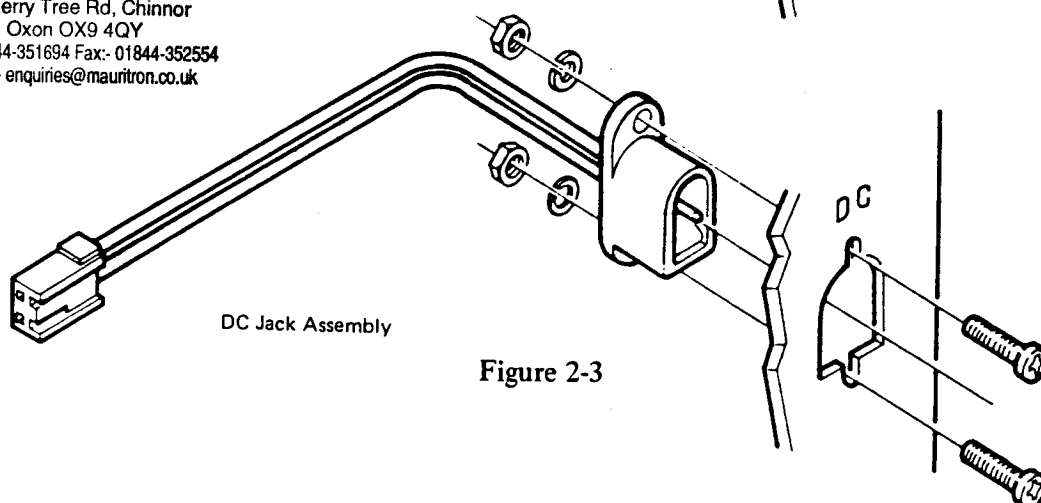

Figure 2-3
6. Install the DC Jack assembly as shown in Figure 2-3.